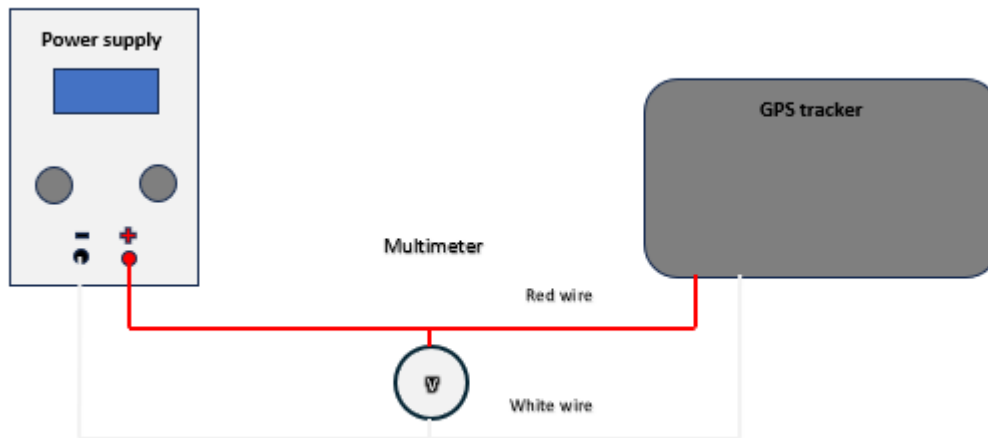

Fig. 1 Connection Diagram
3. Assemble the connection circuit according to "Fig. 1 Connection Diagram."